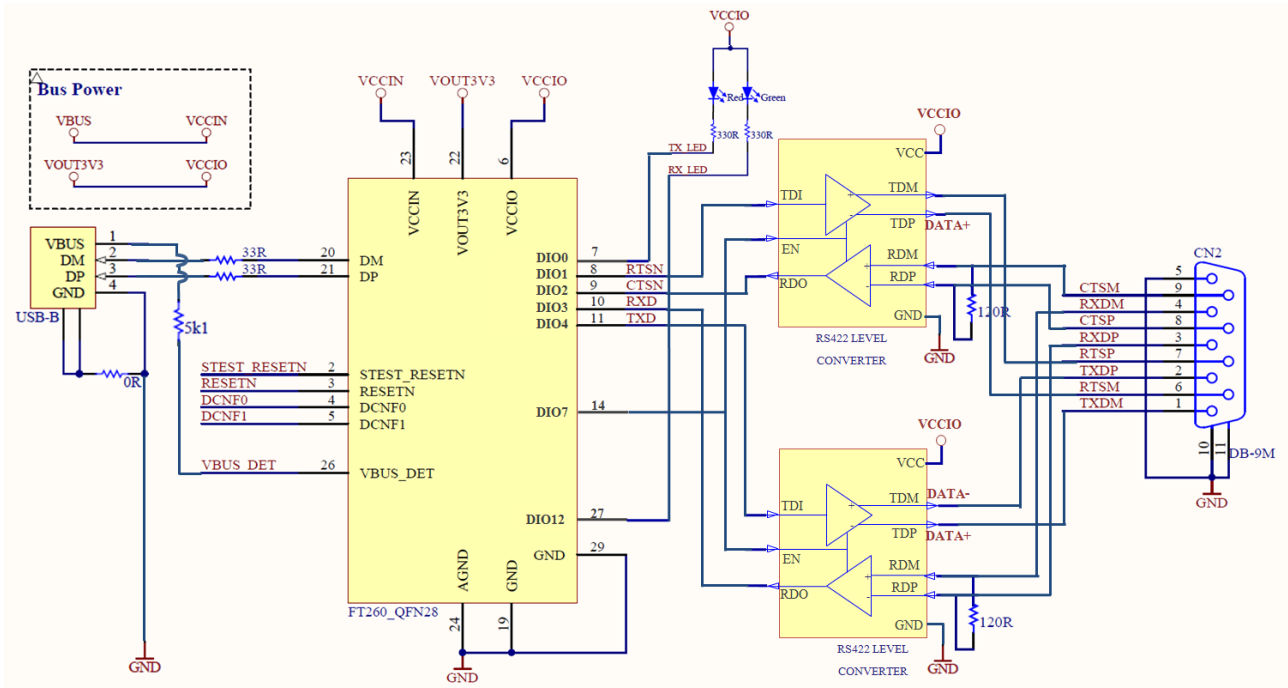

Figure 8-4 Application Example 4: USB to RS422 Converter
An example of using the FT260 as a USB to RS422 converter is shown in Figure 8-4. In this application, two TTL to RS422 Level Converter ICs are used on the serial UART interface of the FT260 to convert the TTL levels of the FT260 to RS422 levels.
There are many suitable level converter devices available. In Figure 8-4, the converter devices have an enable control (EN) to activate the data lines. Setting DIO7 as SUSPOUT_N allows the FT260 to disable the level converters when the system is in suspend. SUSPENDOUT_N is an active-low signal. The DIO0 and DIO12 of the FT260 can be configured as TX_LED and RX_LED. The FT260 can toggle LEDs with these signals when the UART interface is transmitting and receiving data.